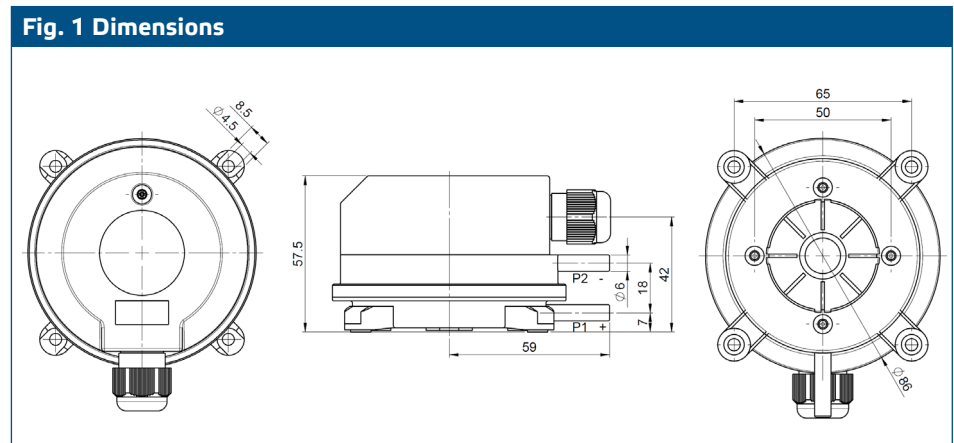

Fig. 2.1 Low pressure monitoring
- 3.1 Low pressure monitoring (Fig. 2.1)